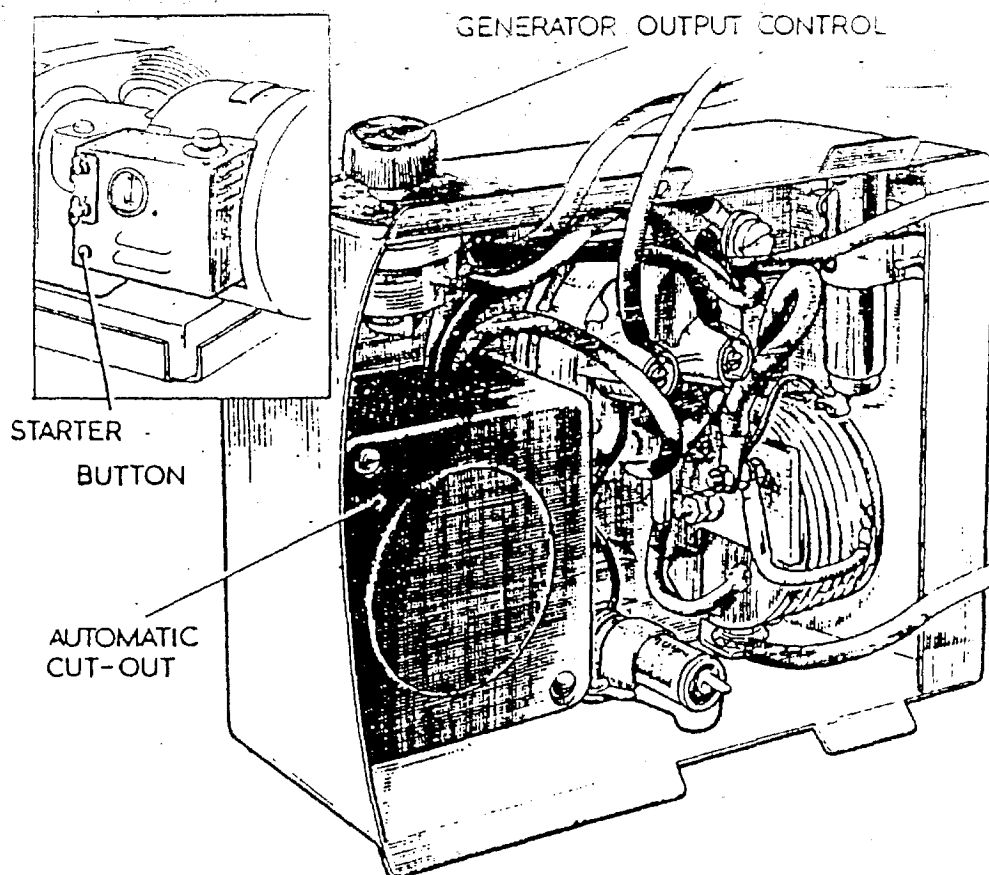

Fig. 13. The Control Box
1.5.8. The Control Box. Fig. 13. The control box is mounted on the side of the generator. The control knob on top of the box is for regulating the output of the set. The two